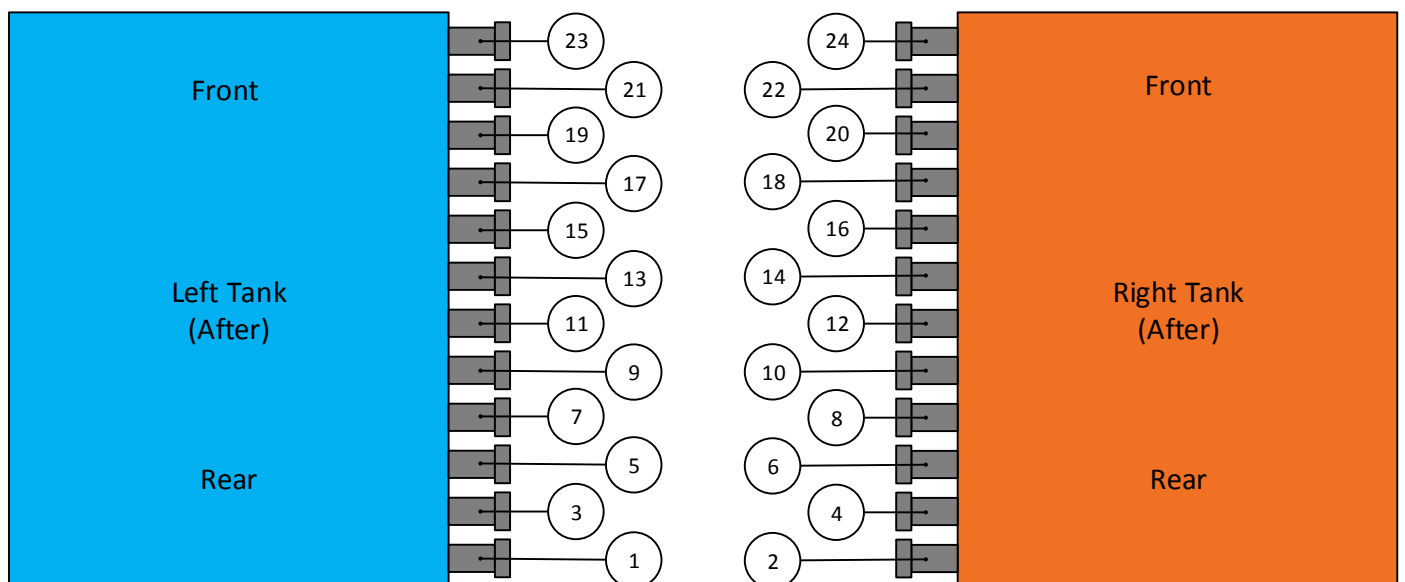

Figure 3a
Step 3: Once all the hoses have been labeled, move the hoses so they resemble figure 3a. All odd rows will be fed from the left (Blue) tank and all even rows will be fed from the right (Orange) tank.